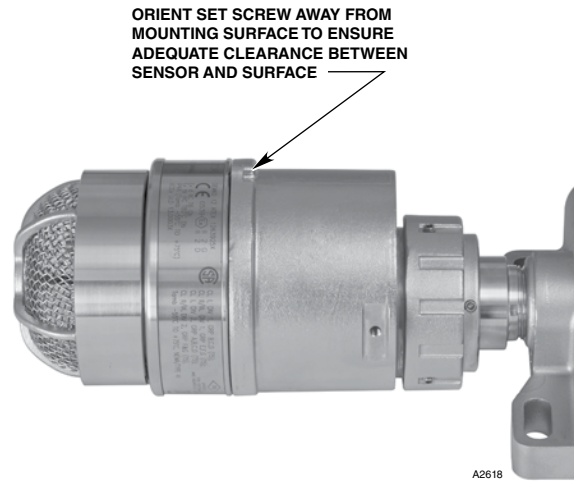

Figure 8—AC100 Connected to Termination Box
2. When the sensor gets tight, note the position of the set screw on the sensor housing. It should be oriented away from the mounting surface to ensure adequate clearance between the sensor and mounting surface. See Figure 8.
5. Insert the sensor wires through the connector assembly into the termination box, then secure the sensor to the termination box by tightening the ring on the connector assembly. Prior to tightening the ring, orient the sensor with the set screw away from the detector mounting surface to ensure adequate clearance between the sensor and mounting surface. See Figure 8.